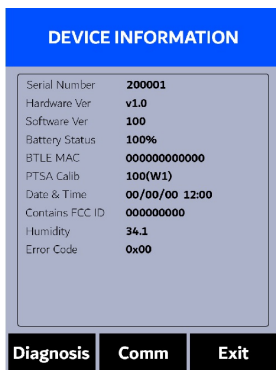

Figure 12.
The **DEVICE INFORMATION** screen is launched when **Info** (OK) is pressed in the measurement mode. This screen contains the device serial number, software version, and hardware version (Figure 12). The battery life as a percentage and the MAC addresses for main module also shown.